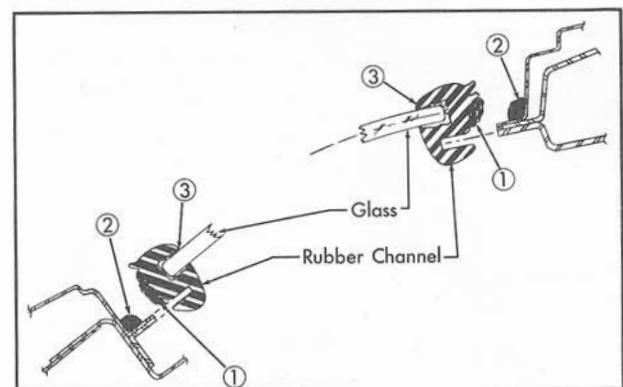

Fig. 17-8 Windshield Assembly Sealing
3. Apply ribbon of medium-bodied sealer completely around base of rubber channel as indicated at "1", and around windshield opening as indicated at "2", Fig. 17-8.
6. Seal outside lip of rubber channel to glass with weatherstrip cement as indicated at "3" in Fig. 17-8.